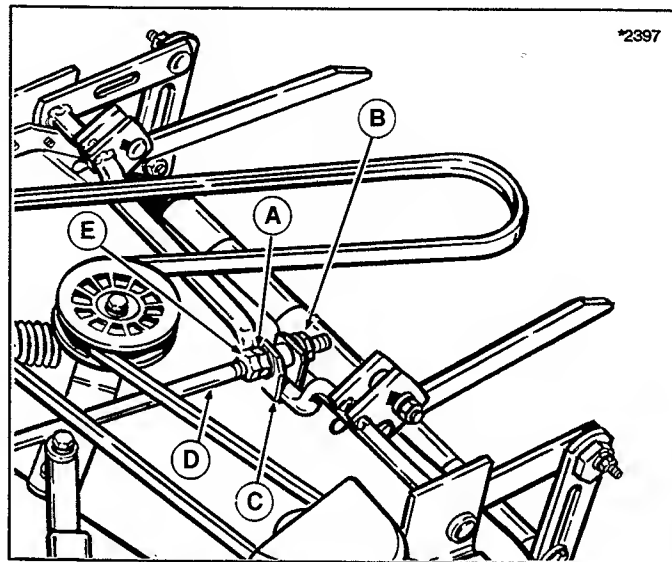

Figure 24. Front-to-Back Leveling
2. Position blade(s) front-to-back. Measure the distance from the ground to front tip of blade(s), and from ground to rear tip of blade(s). On the 34" mower, front tips should be 1/4" (6 mm) higher than the rear tips. On the 30" mower, the front tip should be level to 1/8" (3 mm) higher than rear tip. For adjustment, refer to figure 24.
- a. To raise front of mower deck, loosen jam nut (E) and rear nut (B). Turn adjustment nut (A) against bracket (C) to lengthen leveling rod (D).
- b. To lower front of mower deck, loosen jam nut (E) and adjustment nut (A). Turn rear nut (B) against bracket (C) to shorten leveling rod (D).
- c. Recheck measurement before tightening adjustment nut (A) and jam nut (E) against bracket.